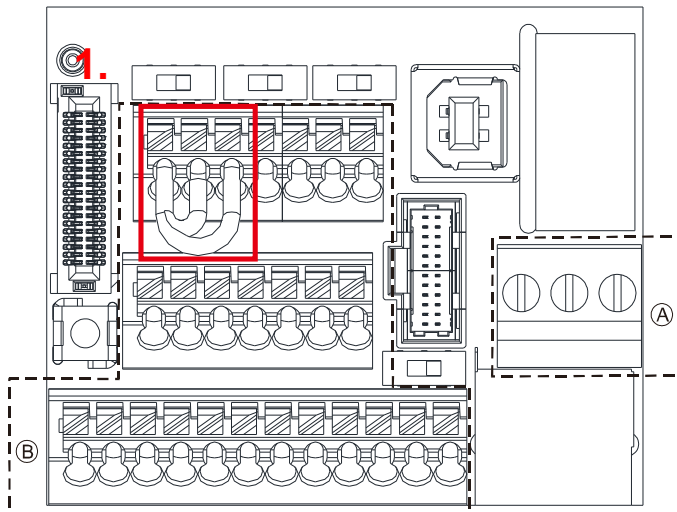

Figure 6-6
1. The default condition is +24V / S1 / S2 shorted by jumper, as shown 1. in Figure 6-6. Refer to Chapter 4 WIRING for more details
3. The RELAY terminal uses the PCB terminal block (as shown area **A** in Figure 6-6):
4. The Control terminal uses a spring clamp terminal block (as shown area **B** in Figure 6-6):